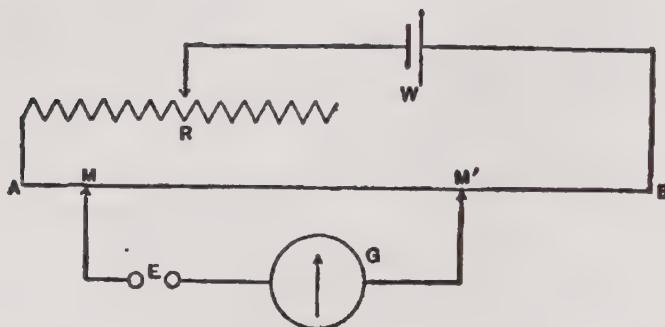

Fig. 157. Principle of the Potentiometer.
*Principle of the Potentiometer.*—In Figure 157  $W$  is a battery giving a constant current,  $R$  is an adjustable resistance,  $A\ B$  is a resistance divided into 150,000 parts, and by movable contacts  $M\ M'$  different lengths of it may be thrown into parallel with the circuit containing the